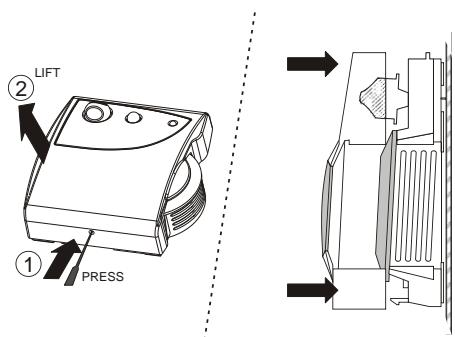

Fig. 1. Cover disassembly / assembly
The CLCM1T,2T,4T,5T,6T come packed with a sub-base that mounts separately for ease of installation; to disassemble the cover and the sub-base, see Fig. 1.
1. Disassemble the cover as shown in Fig. 1.